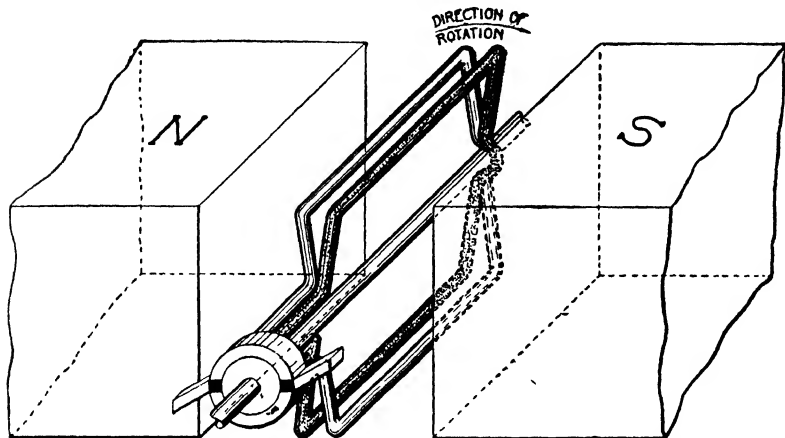

Fig. 18. Direct-Current Generator Composed of Two Loops of Wire and a Commutator of Two Segments
**OPERATION OF TWO-PART COMMUTATOR AND TWO LOOPS OF WIRE.** Two loops of wire may be connected in parallel between two commutator segments as shown in Fig. 18. The e.m.f. between the brushes will be the same as though a single loop of wire were used, but the current the armature is capable of delivering will be doubled if the wire used in winding the loops